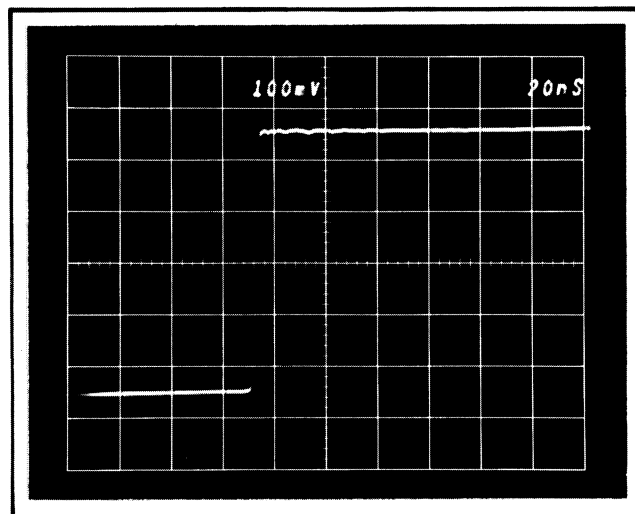

Fig. 4-5. Probe response to a square wave input signal (risetime  $\leq 1$  ns). Note that the aberrations are  $\leq 3\%$  (0.15 div).
6) Recheck the waveform with the compensation box cover installed and perform adjustments as necessary to obtain the correct waveform after the cover is installed (see Fig. 4-5).
7) Recheck the waveform with the compensation box cover installed and perform adjustments as necessary to obtain the correct waveform after the cover is installed (see Fig. 4-5).